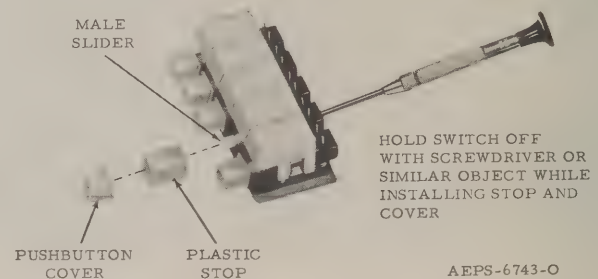

Figure 2.
Step 3. When the "Channel-Scan" monitor unit is used with 2- or 3-frequency radios, the unused pushbutton switches must be "pinned" as shown in Figure 2.